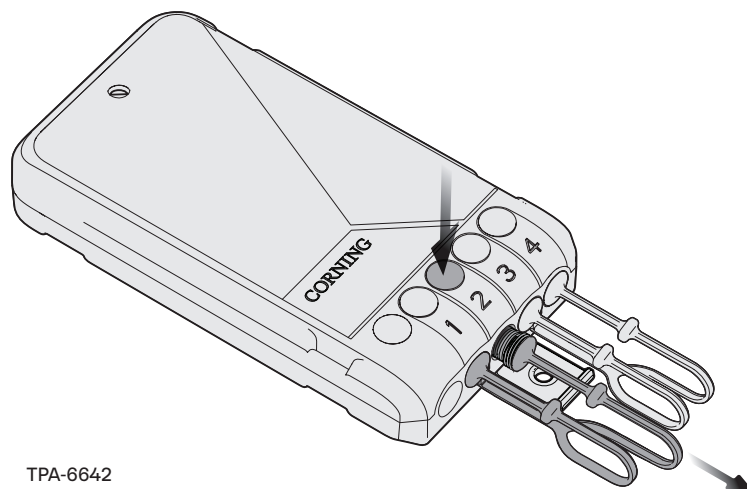

Figure 27
**Step 1:** Depress the button for the port and pull out the dust plug. Remove the dust cap from the connector (Figure 27).